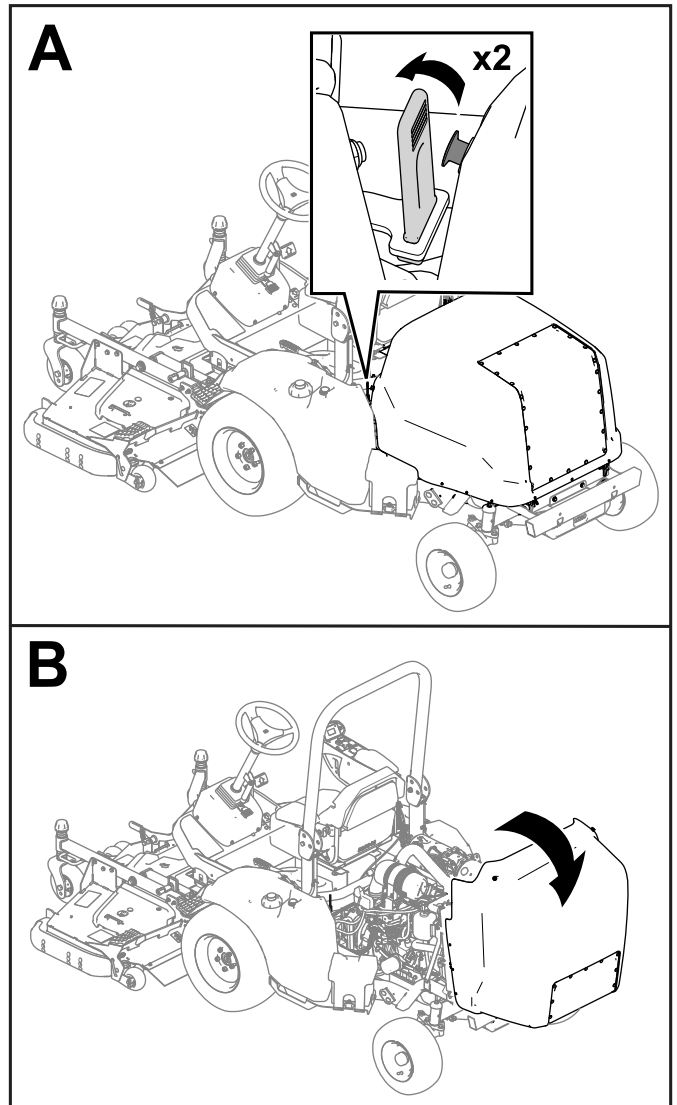

Figure 29
9. Raise the hood (Figure 29).